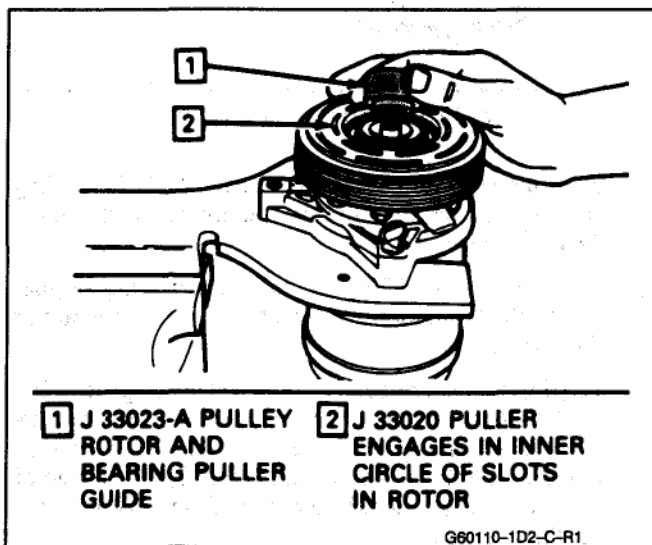
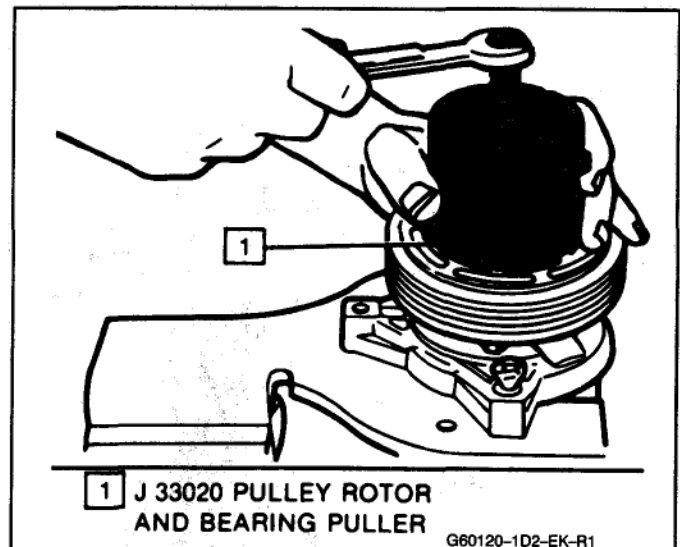

Fig. 7 Installing Pulley Rotor/Bearing Puller Guide
Fig. 8 Removing Pulley Rotor and Bearing Assembly
5. Install the clutch plate and hub installer-remover J 33013-B with bearing as shown in Figure 8.
3. Install pulley rotor and bearing puller guide J 33023-A to the front head (Fig. 7) and install J 33020 pulley rotor and bearing puller down into the inner circle of slots in the rotor. Turn the J 33020 pulley clockwise in the slots in the rotor (Fig. 8).